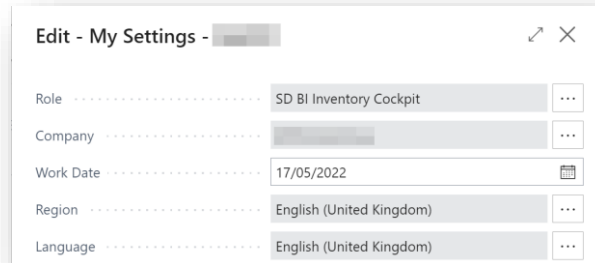

Figure 3-5
5. The **SD BI Inventory Cockpit Manager** Role should now be displayed in the **Role** field (Figure 3-5).